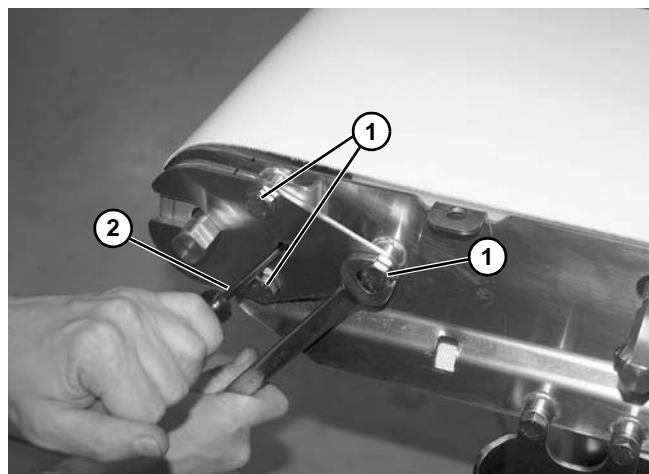

Figure 110
1. To adjust tracking, loosen three screws (Figure 110, item 1) on each side of conveyor.
2. Tension each end with a bar (Figure 110, item 2), as needed for tracking. While applying tension, tighten three screws (Figure 110, item 1).